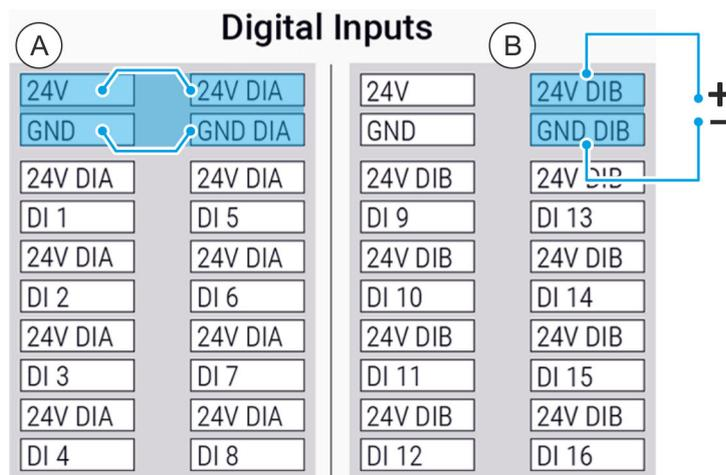

Fig. 73 Connecting the external power supply (example)
Fig. 73 shows an example of the external power supply for the inputs of the digital I/O interfaces.
01. Connect the external power supply as shown in Fig. 73.